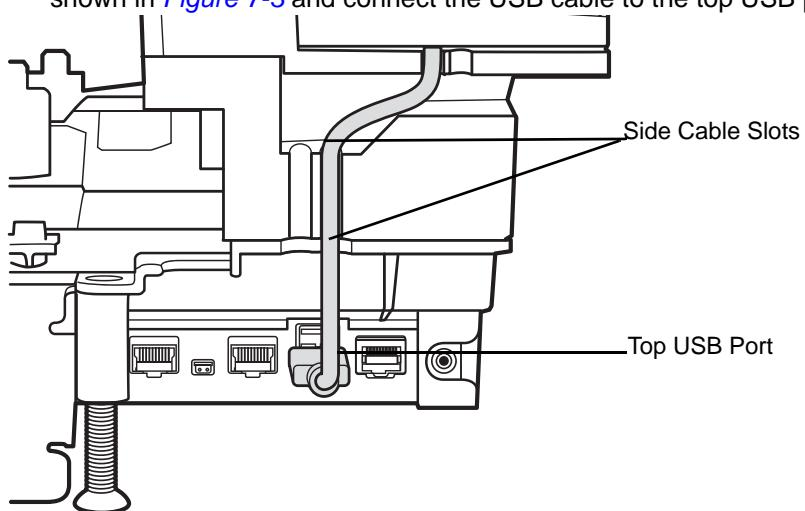

Figure 7-3 Connecting the Cable
3. Before replacing the tower cover with the MX101 tower cover kit, route the cable into the side cable slots as shown in Figure 7-3 and connect the USB cable to the top USB port (recommended) on the MP70XX.
14. Route the cable into the side cable slots as shown in Figure 7-3 and connect the USB cable to the top USB port (recommended) on the MP70XX.